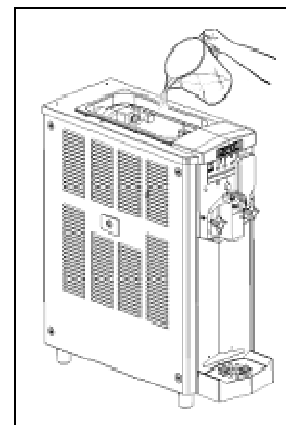

Fig. 4
- **F**ill the top tank with hot water (fig. 4) and wait a few minutes.